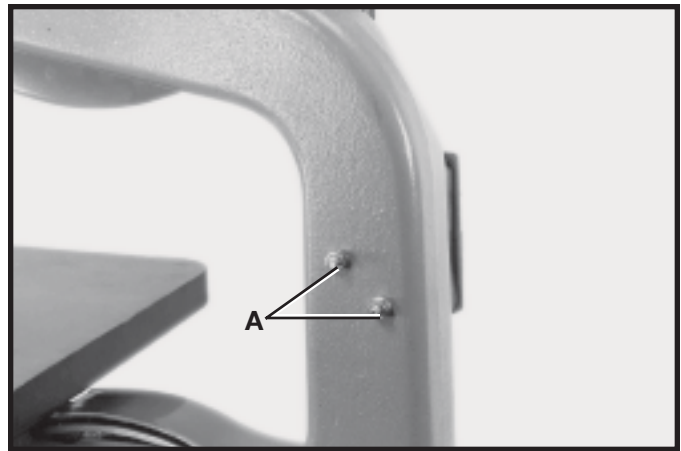

Fig. 10
5. Fasten the switch box to the band saw arm using two nuts and lockwashers (A) Fig. 10, which were removed in **STEP 3**.